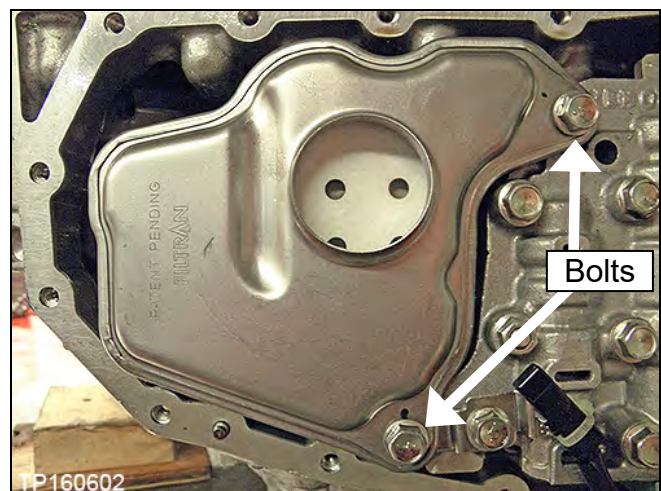

Figure 97
6. Install the new oil strainer and O-ring seal with two (2) 54 mm (2.125 inches) bolts. See Figure 97.